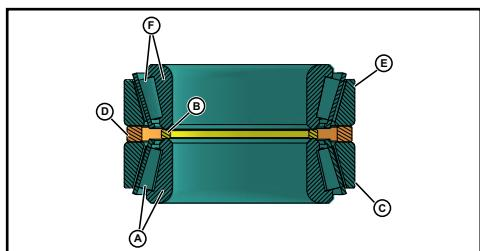

Figure 47 - Bearing assembly
**NOTE: DO NOT interchange the parts of one bearing assembly with another. The parts are precisely matched during manufacturing and must be installed as a matched assembly. See Figure 47.**